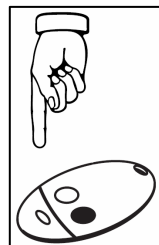

FIG. 10
5. The display will show “Desired button”. Press the button you want to activate the gate with as shown in Fig. 10.